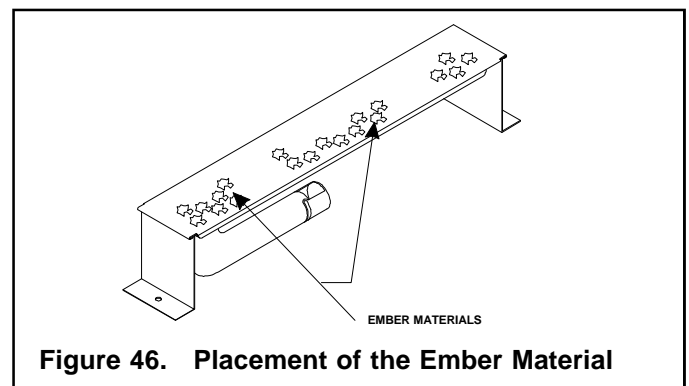

Figure 46. Placement of the Ember Material
- Place dime size pieces of ember material about 1/2 inch apart near port holes in burner top. Do NOT press embers into burner ports. Cover the top of the burner with a single layer of ember material (see Figure 46).